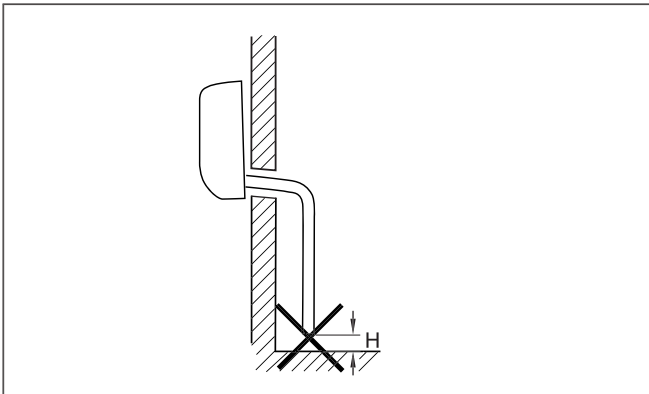

Fig. 9.4 Minimum distance from the floor.
- Install the condensed water pipe in such a way that the distance of its free end from the floor is at least 5 cm (see Figure 9.4).